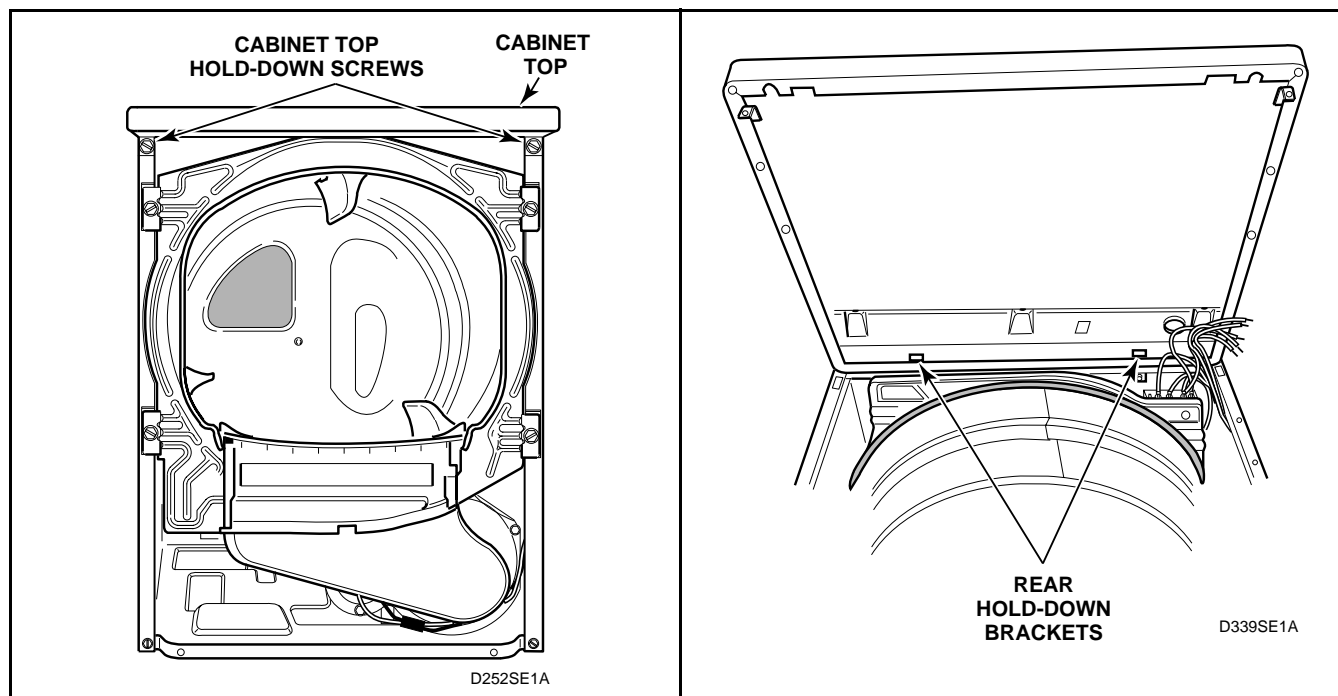

Figure 26
- Remove two cabinet top hold-down screws. See *Figure 26*.
- Lift cabinet top to a vertical position by hinging it on the rear hold-down brackets. See *Figure 26*.
- Carefully withdraw wire harness through hole in cabinet top and lift the top off the top brackets. See *Figure 26*.